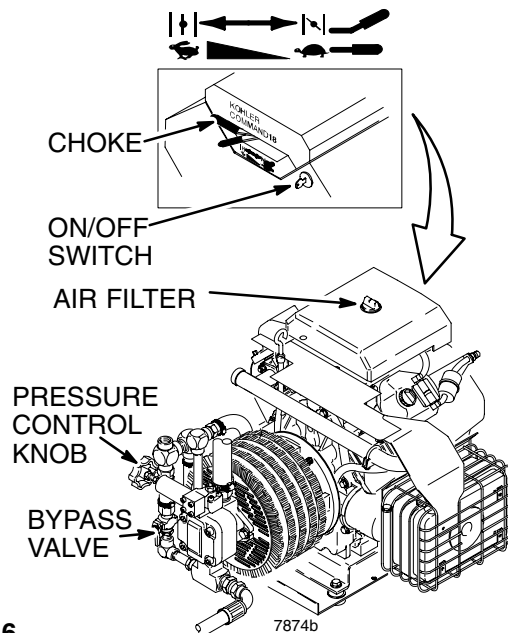

Fig 6
- a. Open the bypass valve to make startup easier. In the open position, the valve lever is parallel to the body of the valve. See Fig 6. Close the filter drain valve.
- d. If the engine is cold, close the choke by moving the choke lever. See Fig 6.
3. Turn and hold the ignition key to START until you hear the engine "catch", then release the key to RUN. See Fig 6. If the engine does not start, open the choke a little (move lever). If the engine floods, open the choke all the way and try again.
- e. After the engine is warm, gradually open the choke lever (move choke lever) and close the bypass valve. See Fig 6.
**To stop the engine in an emergency, turn OFF the ignition key. Close the bypass valve if possible. See Fig 6. Then follow the **Pressure Relief Procedure Warning** on page 10.**
- Squeeze the trigger and *slowly* turn the pressure control knob *clockwise* just enough to start the pump. See Fig 6.